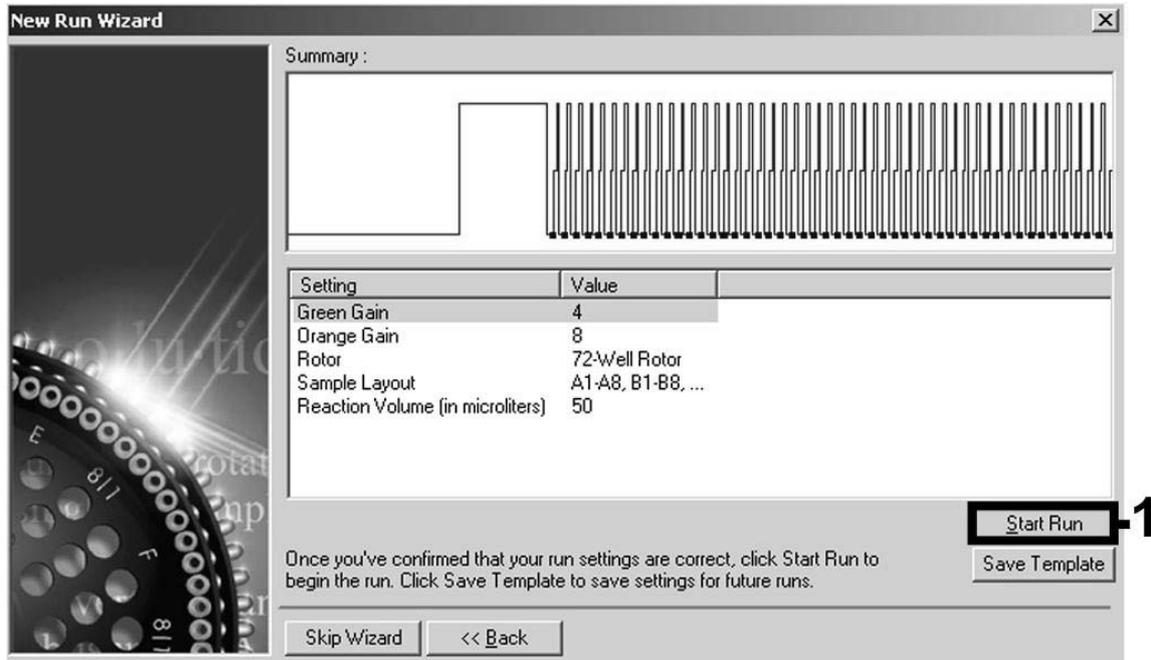

Figure 12. Starting the run.
| Starting the run                               | Figure 12       |
8. The gain values determined by the channel calibration are saved automatically and are listed in the last menu window of the programming procedure (Figure 12). Click "Start Run".